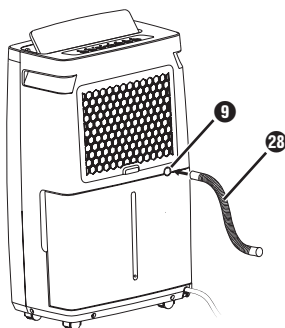

Fig. 3
- ◆ Connect either the supplied hose ❷ or the EU garden hose adapter ❹ to the outlet opening ❶ (see figures 3 + 4).